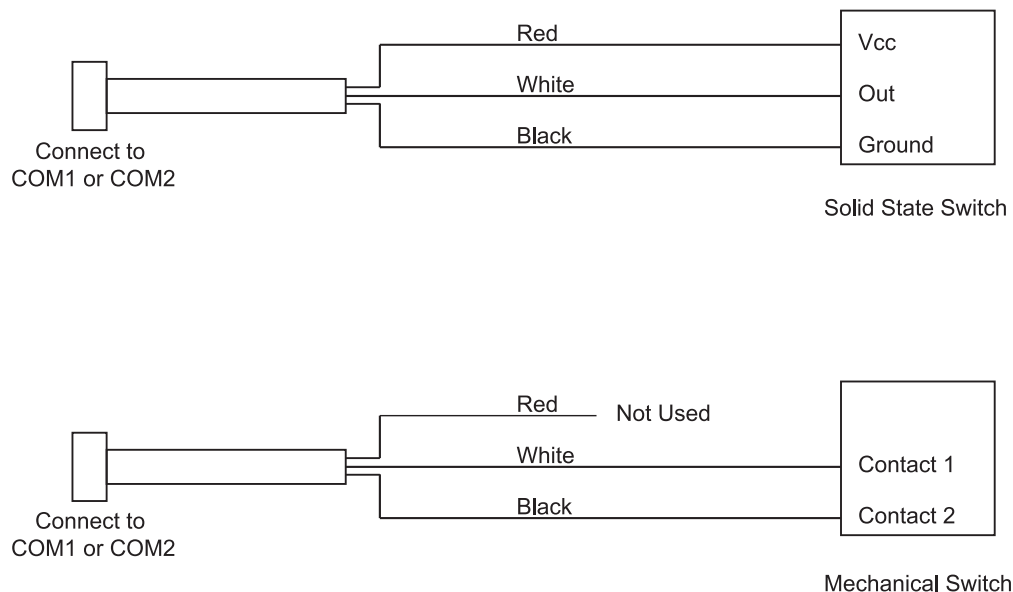

Figure 2-48 In-Motion Detector Cable Wiring
2. Wire the cable and switch as shown in Figure 2-48.